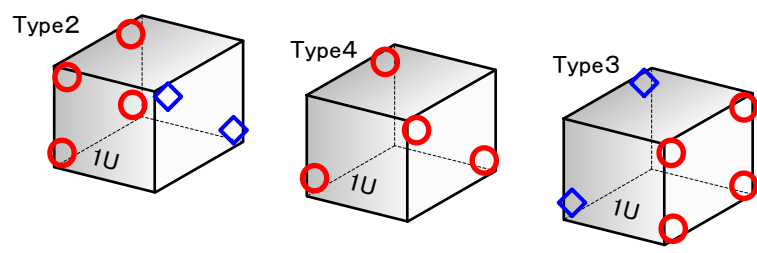

Figure C3-4 Positions of Spring Plungers and Deployment Switches
When a CubeSat is stored with others in a single E-SSOD, such CubeSat is required to have spring plungers (P/N: 251D939002-1) as shown in Figure C3-3 as separation springs to keep enough distance during release from the E-SSOD for collision avoidance; however, a 1U CubeSat of Type 4 as shown in Figure C3-4 and a 3U CubeSat, which is stored alone, does not need any spring plunger. A pair of spring plungers shall be diagonally installed on standoffs, rail ends of a CubeSat, as shown in Figure C3-4.
Figure C3-4 shows the mounting positions for the spring plunges, whose installation is compulsory, and the allowable positions for the deployment switches (separation switches), whose installation is optional.
- (1) A CubeSat shall have deployment switches (separation switches) on its standoffs as shown in Figure C3-4 to prevent activation in an E-SSOD. For the number of deployment switches to be installed, refer to Section C4.1. The allowable mounting positions are shown in Figure C3-4 and the Detailed mounting position is shown in Figure C3-5.